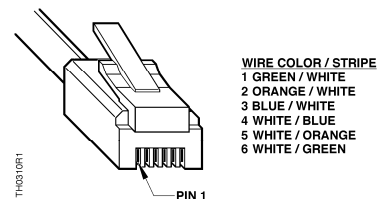

Figure 4. Terminating the RJ-11 Connector.
8. If the cable is non-terminated or if the RJ-11 was damaged, cut the cable, leaving about 3 inches (75 mm) on the sensor side of the drywall, and attach an RJ-11 connector with an RJ-11 crimping tool. On the RJ-11 connectors, ensure that pin Number 1 connects to the same wire at each end of the cable. See Figure 4.